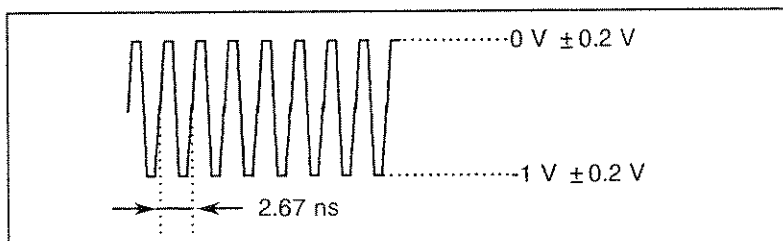

Figure 8-4 1/32 CLK TRIGGER Output Waveform (f = 12000 MHz)
- (7) Normal when the waveform is a rectangular wave as shown in Figure 8-4.